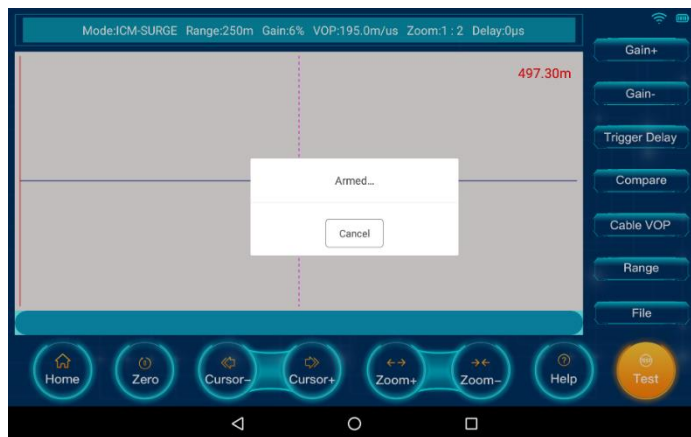

Figure 4.18 Armed prompt
Pressing the Test button (figure 4.15⑧) leads to the “Armed” prompt (figure 4.18) which means that the device is ready to trigger, when the surge generator operates.